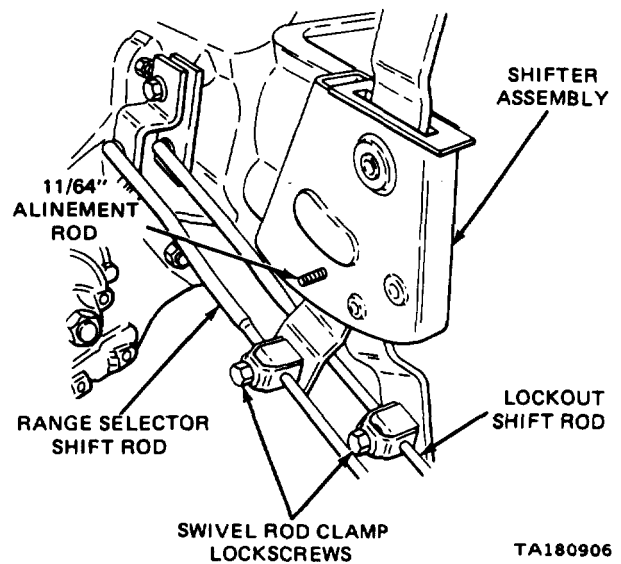

Figure 5-3. Alinement Rod in Position.
(3) Put the transfer shift lever in the cabin "N" and insert an 11/64-inch diameter rod through the alignment holes in the shifting housing (figure 5-3).